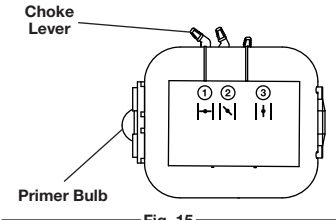

Fig. 15
3. Fully press and release the primer bulb 10 times, slowly. Some amount of fuel should be visible in the primer bulb (Fig. 15). If fuel cannot be seen in the bulb, press and release the bulb until fuel is visible.
4. Move the choke lever to **Position 1** (Fig. 15).
6. Move the choke lever to **Position 2** (Fig. 15).
2. Press and hold the On/Off switch in the OFF (O) position until the unit comes to a complete stop (Fig. 15).
7. **Do not squeeze the trigger.** Move the choke lever to **Position 2** (Fig. 15).
11. Continue to squeeze the trigger. Move the choke lever to **Position 3** (Fig. 15) and continue warming the engine for an additional 60 seconds. The unit may be used during this time.